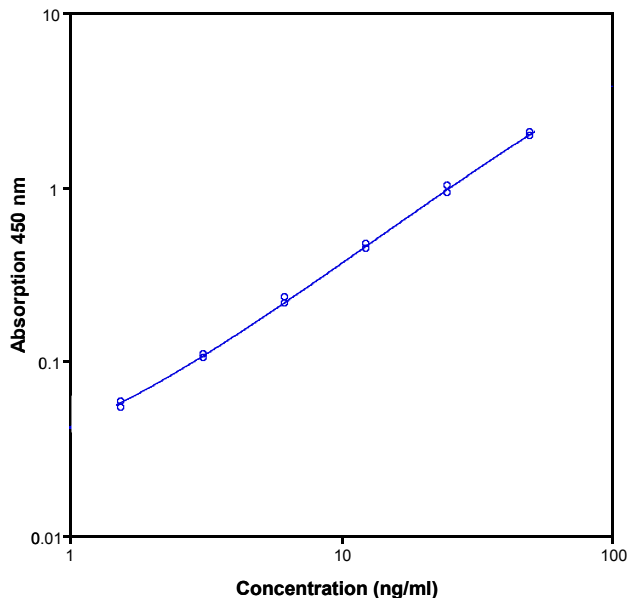

Fig. 7 Representative standard curve for hHuman sE-selectin ELISA Kit. Human sE-selectin was diluted in serial 2-fold steps in Sample Diluent.
- A representative standard curve is shown in Figure 7.